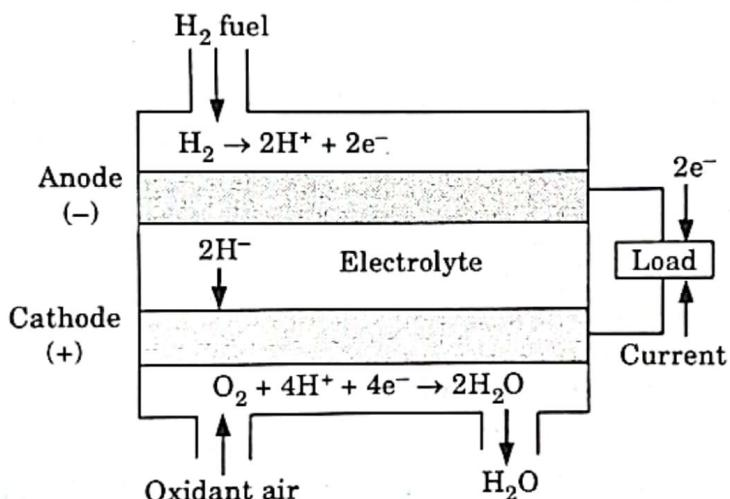

Fig. 3.10.1. Fuel cell operation.
1. A basic hydrogen-oxygen fuel cell with phosphoric acid as electrolyte is shown in Fig. 3.10.1.